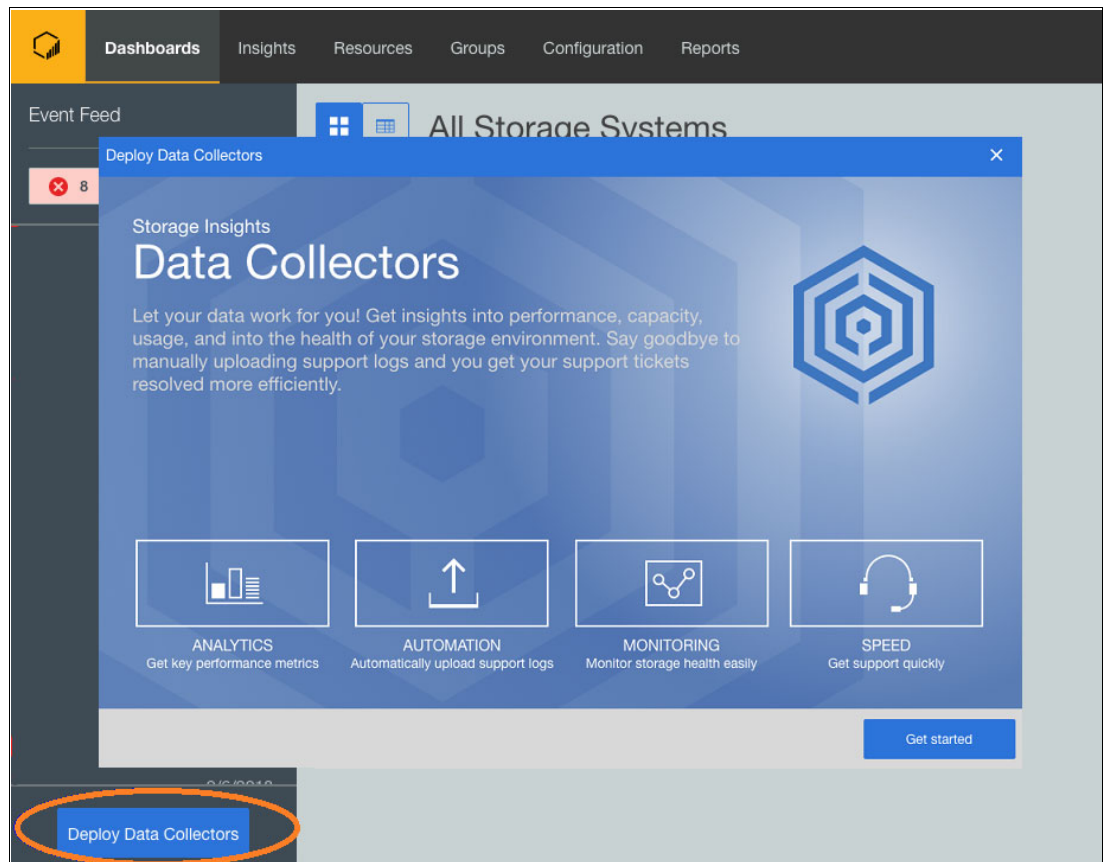

Figure 15-1 Deploy Data Collectors
3. Install data Collector in your data center to stream performance, capacity, and configuration metadata about storage systems to IBM Storage Insights. On your dashboard, click **Deploy Data Collectors** and get started. See Figure 15-1.